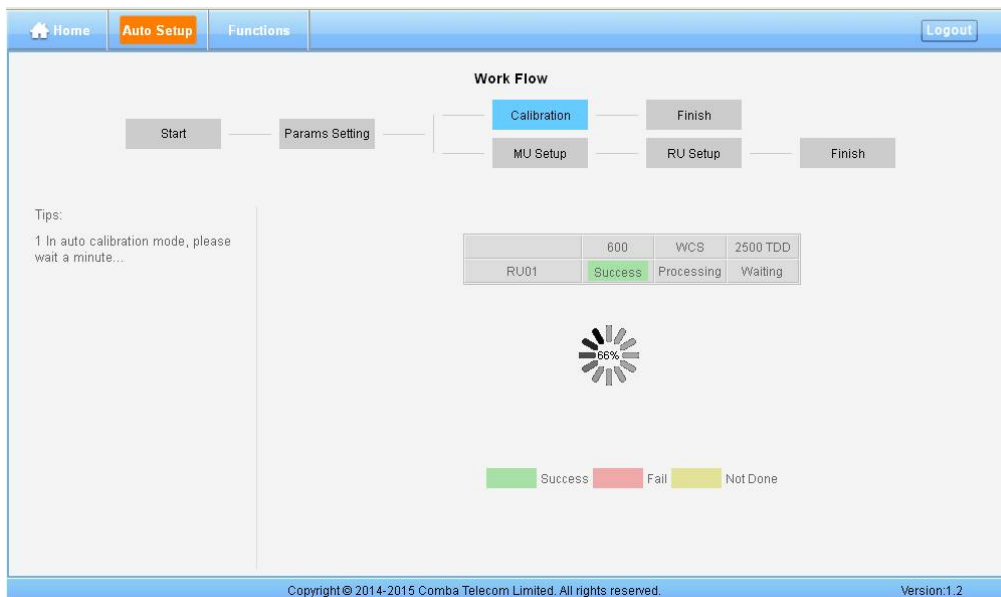

Figure 70: Commissioning Procedure - Calibration
Step 6: Select Calibration, shown as Figure 70, set the right synchronous carrier center frequency point for 2500 TDD in the popped out window, minimum scale is 100KHz, then select “Automatic Calibration” or “Manual Calibration”.